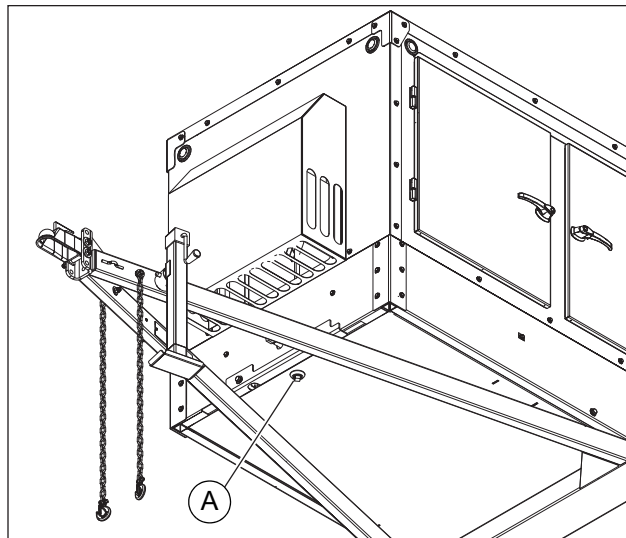

Figure 4-4. Overfill Containment Plug
1. See Figure 4-4. Locate the threaded plug at the front and underneath the unit (A).